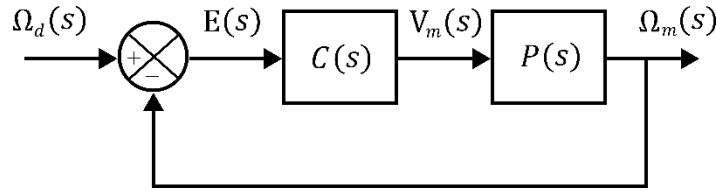
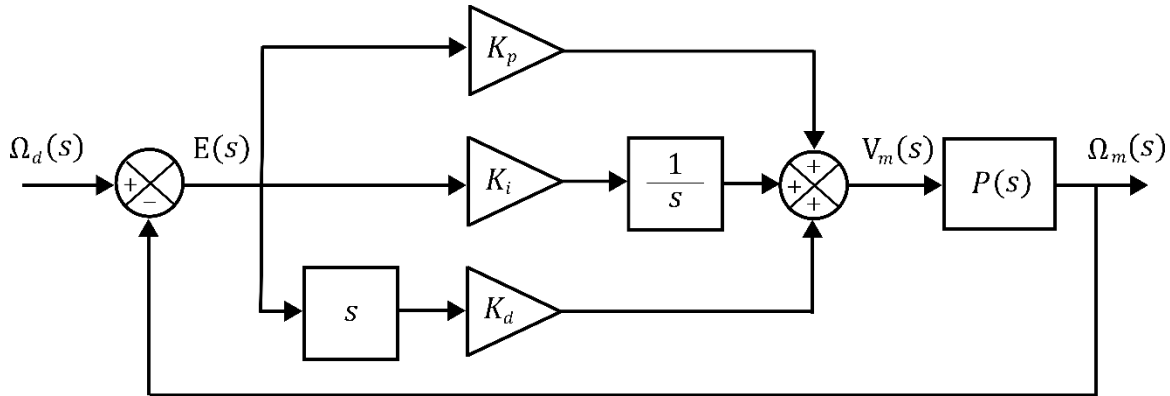

Fig. 1.1: Feedback control loop.
Fig. 1.2: Block diagram of PID control.
As it is described in Eq. 1.2, the proportional term is based on the present error, the integral term depends on past errors, and the derivative term is a prediction of future errors. Hence, the feedback control loop is shown in Fig. 1.1.
Based on Eq. 1.2 and Fig. 1.1, in Laplace Domain, the controller $C(s) = K_p + \frac{K_i}{s} + K_d s$, it means that the control action is a sum of three terms referred to as proportional (P), integral (I) and derivative (D) control gain. Henceforth, the block diagram of the feedback loop under the PID control strategy is presented in Fig. 1.2.